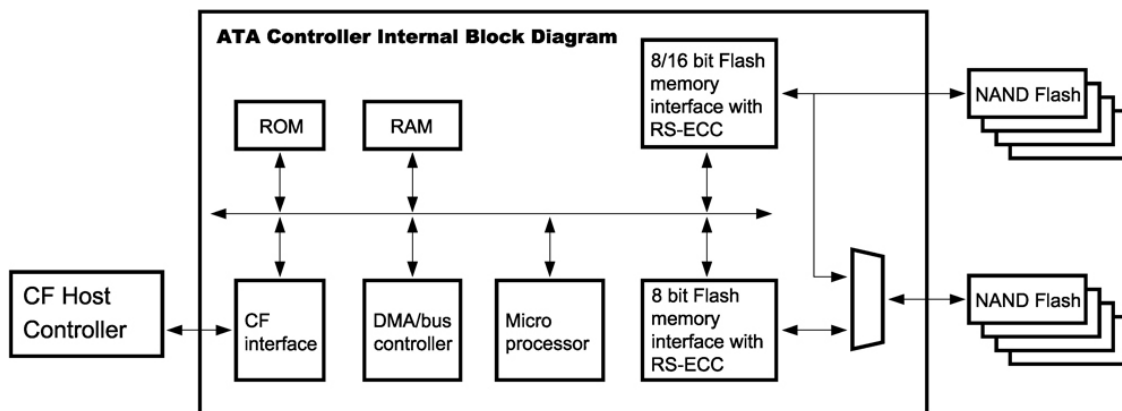

Figure 1: Compact Flash Card Controller Block Diagram
Figure 1 shows a block diagram of the used high tech Industrial Compact Flash (CF) Card controller.